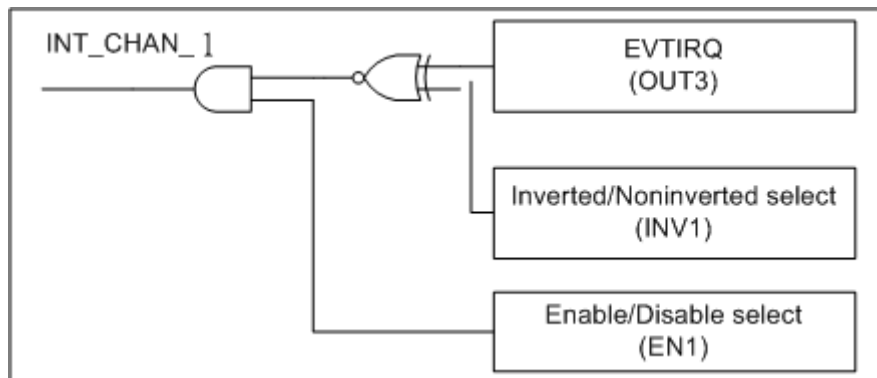

Figure 2.8
Figure 2.8 illustrates the control method of event interrupt. Note that the signal source comes from OUT3. The INV1 is used to invert/non-invert the trigger signal source and EN1 is used to disable/enable the timer interrupt (Refer to Sec. 2.5 for the source of interrupt signal). User can use Counter3 as event counter to count the event signal that comes from Pin7 of CN5. When the amount of event is the same as counter3 setting, the interrupt of INT\_CHAN\_1 will be trigger. **The INT\_CHAN\_1 must be fixed in low level state normally and generated a high\_pulse to interrupt the PC.**
1. The EN1 can be used to enable/disable the INT\_CHAN\_1 as follows: (refer to Figure 2.8 and Sec. 3.1.4)
2. The INV1 can be used to invert/non-invert the EVTIRQ as follows: (Refer to Figure 2.8 and Sec. 3.1.6)